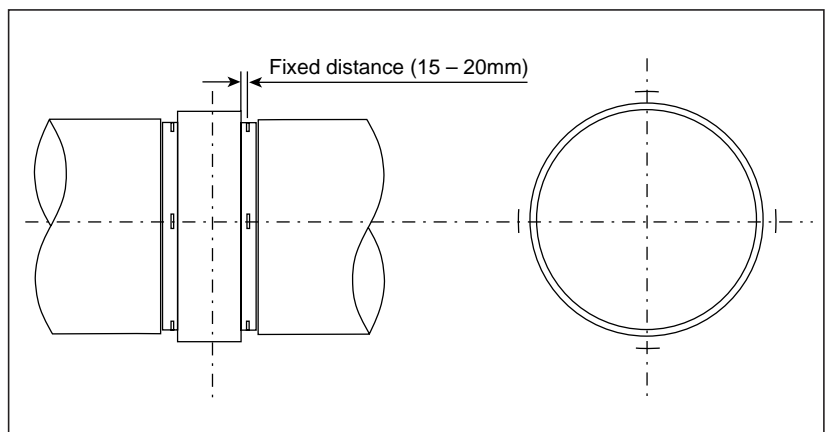

Figure 5.1
(1) Joints
- The coupling position relative to both of the pipes shall be marked at 4 points around the circumference (*Figure 5.1*) as reference for later checks.
(2) Supports
(3) Clamps
- If a coupling has moved, its new position relative to both of the pipes shall be marked at 4 points around the circumference (*Figure 5.1*).